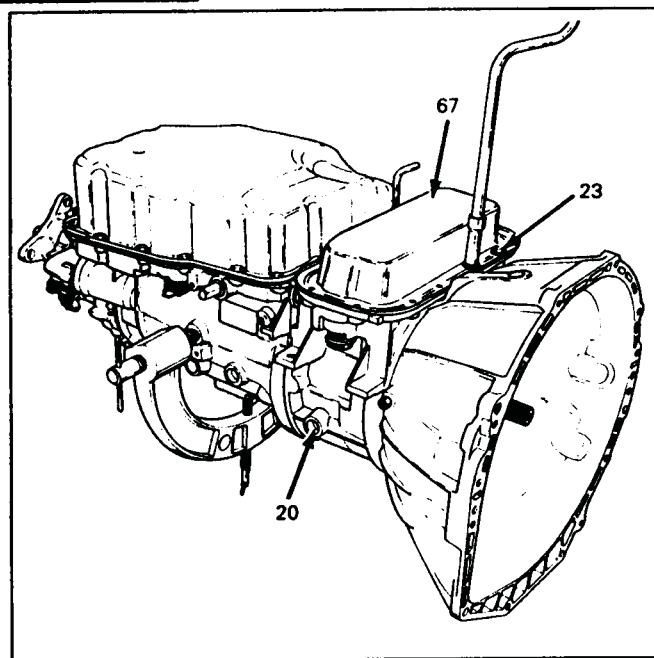

Figure 141
9. Install the adapter case bottom pan and secure to adapter case with 12 adapter case bottom pan bolts, shown in Figure 141.